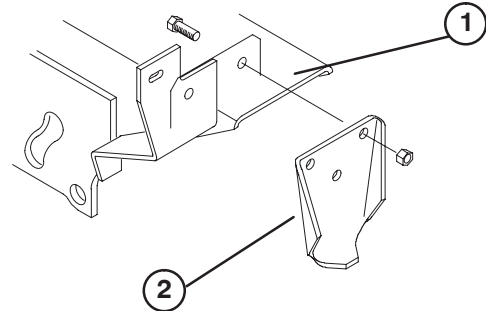

Figure 2
1. Mount an axle stop to each side of rear frame member with (3)1/2 x 1-1/4" lg. capscrews and locknuts. Position stops as shown in figure 2.